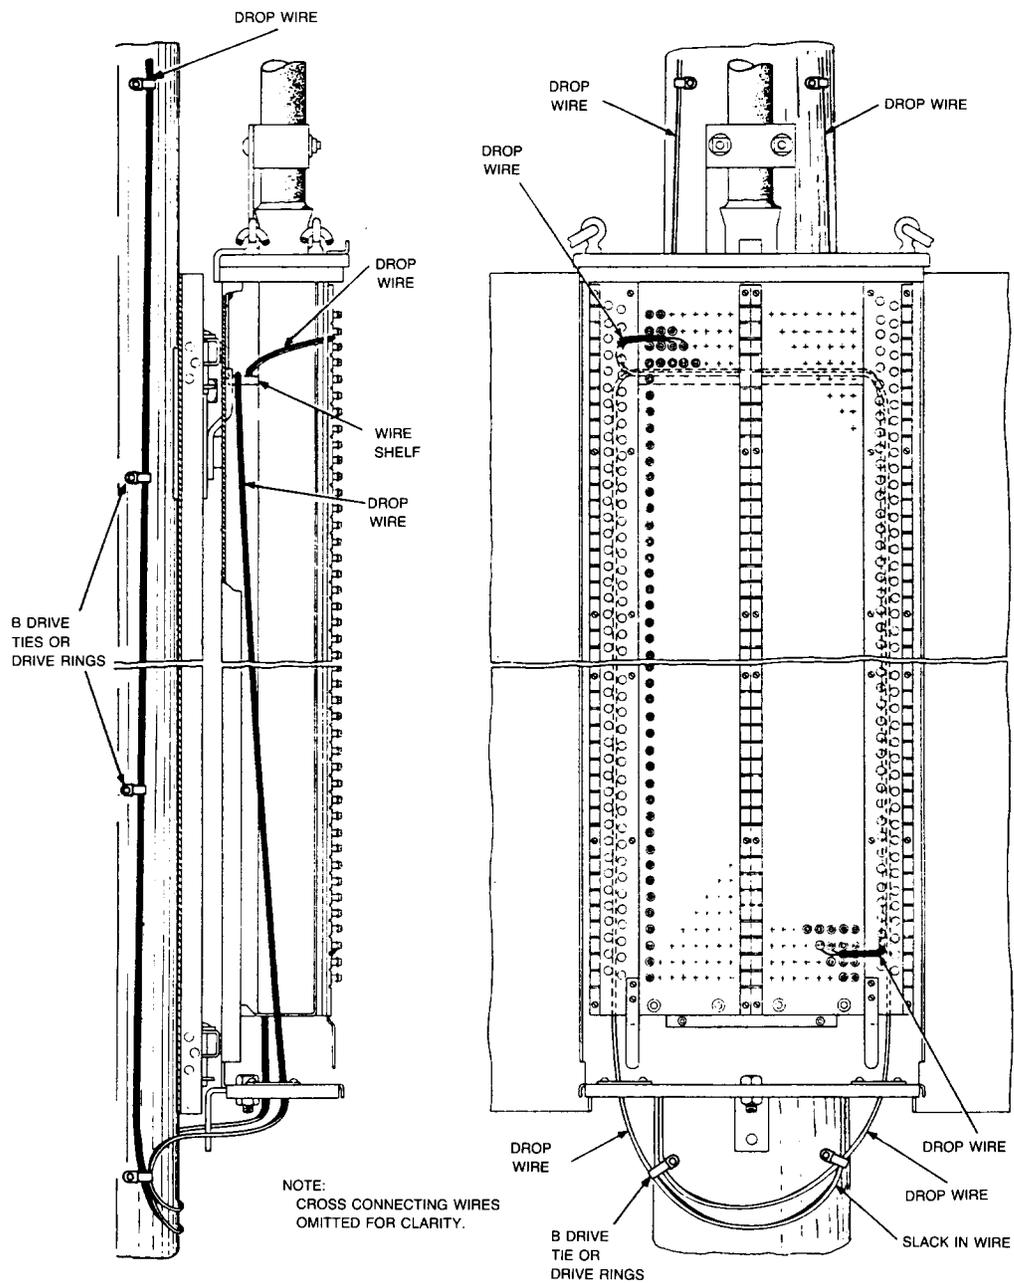

Fig. 18 - Terminating Drop Wire - Superseded BD and BE Cable Terminals
- (1) Proceed as in paragraph 4.07(1) and (2).
- (2) Run the drop wire upward in the wiring channel behind the faceplate extension on the side of the chamber opposite the binding posts on which it is to be terminated, then over the top wiring shelf or the two rings located at the top of the housing, and downward to the proper wiring hole. The routing of wires entering the terminal on the left and right sides is illustrated in Fig. 18. Terminate drop wire between washers on the binding posts of the feeder pair unless two wires are already terminated on these posts. Where one of these two wires is a cross-connecting wire, terminate the second drop wire on the distribution cable pair, but not more than two wires should be bridged on the binding posts of the distribution cable pair. Where more than two wires are to be bridged to the same cable pair, install a 400-2000A wire terminal on the pole outside the terminal, and bridge the new drop and one of the existing drops in the wire terminal.
- (3) Insert the wire into the proper wiring hole, cut the wire to the proper length, and terminate on the binding post with the tracer conductor to the right. Place the wire under the lower washer unless the space is occupied by an existing wire; in which case, place the second wire between washers.